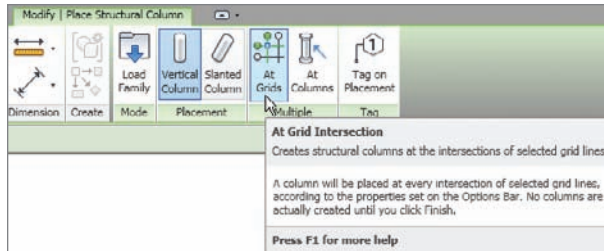

FIGURE 8.29 Using the “Place Column At Grids” function
2. On the Modify | Place Structural Column tab, click the At Grids button on the Multiple panel, as shown in Figure 8.29.